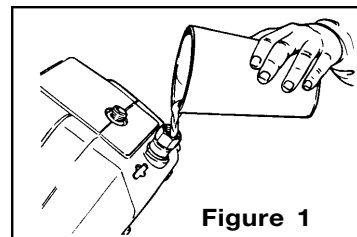

Figure 1
4. Quickly pour approx. 1/4 cup of non-toxic R.V. anti-freeze down the plastic fitting where the water hose attaches while the motor is running (See Figure 1 below). Let unit run for a few seconds.